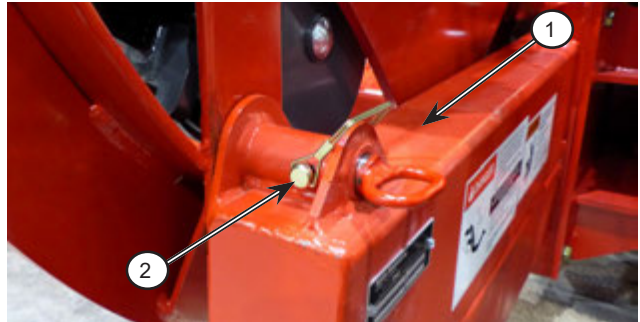

Figure 5.4: Remove the apron lock
- a. Remove the  $\frac{5}{16}$ " locking pins (2) from the 1" apron pins (1) and frame, as per *Figure 5.4*.